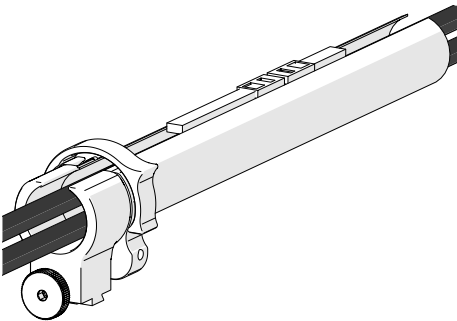

Fig. 105 - Zip opposite end
3. Once the cable is placed the entire length of the tube, bring the zipper from the tube's opposite end, meeting at any point in the middle (*Fig. 105*).